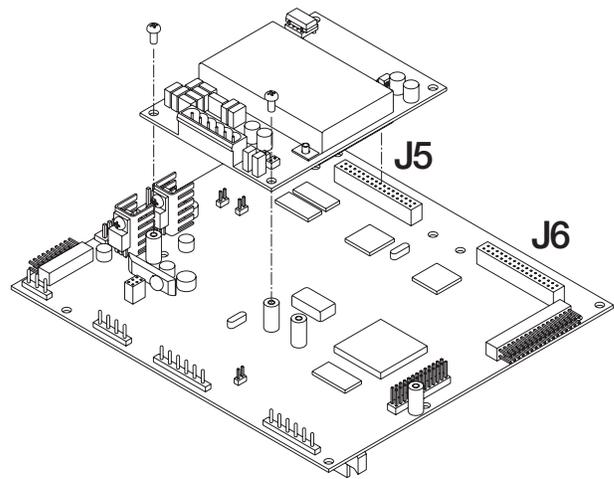

Figure 2-6. Installing Option Card Onto CPU Board
2. Carefully align the large option card connector with connector J5 or J6 on the CPU board (see Figure 2-6). Press down to seat the option card in the CPU board connector.
3. Use the screws provided in the option kit to secure the other end of the option card to the threaded standoffs on the CPU board (see Figure 2-6).